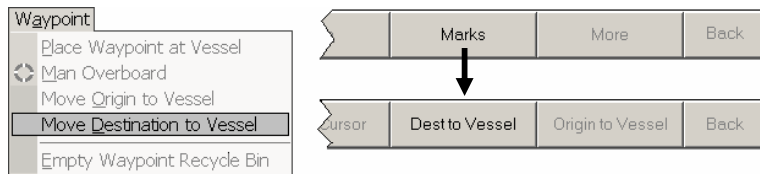

Figure 4-13. Moving the Waypoint You Are Approaching To The Vessel
1. As shown in Figure 4-13, select **Move Destination to Vessel** from the Waypoint menu, or, click **Marks/Dest to Vessel** on the function bar.